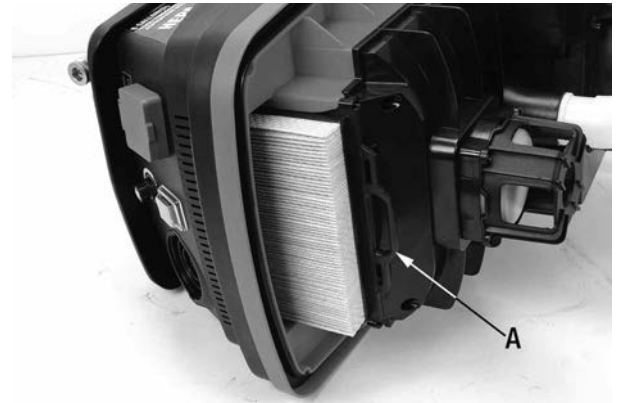

FIGURE 8
- For **dry vacuuming of drywall or cement dust**, make sure the HEPA filter (A) Fig.8 is installed as shown. The HEPA filter material is green. If the incorrect filter is installed, simply pull it out and slide the HEPA filter into place until it is secured to the housing as shown.